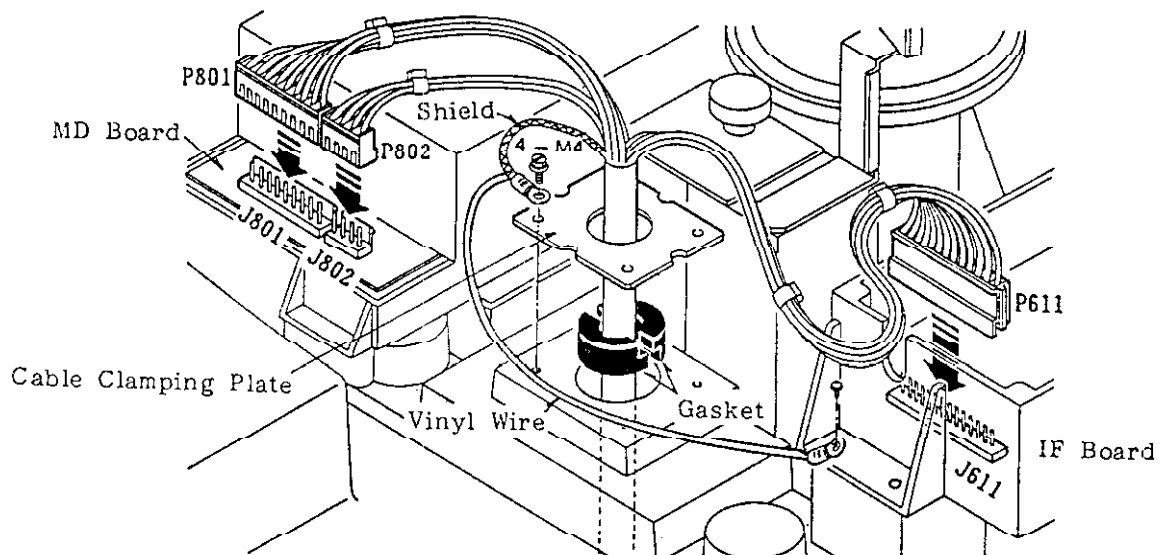

Figure 6-7 Cable Connections and Grounding
- Is the 4-way connector (P/J802) inside the scanner loose? See Figure 6-7 on page 6-7.
2. Remove the cable clamping plate by loosening four M4 screws and two gaskets at the radome base. See Figure 6-7.
4. Secure the cable with the cable clamping plate and gaskets. Ground the shield and vinyl cables by using one of the fixing screws for the cable clamping plate and for the IF amp chassis. See Figure 6-7.
5. Mate two plugs P801 (9 way) and P802 (4 way) to the MD board. Remove the lid of the IF board and mate plug P611 (14 way), referring to Figure 6-7. Take care not to pinch the wire when putting the lid back.